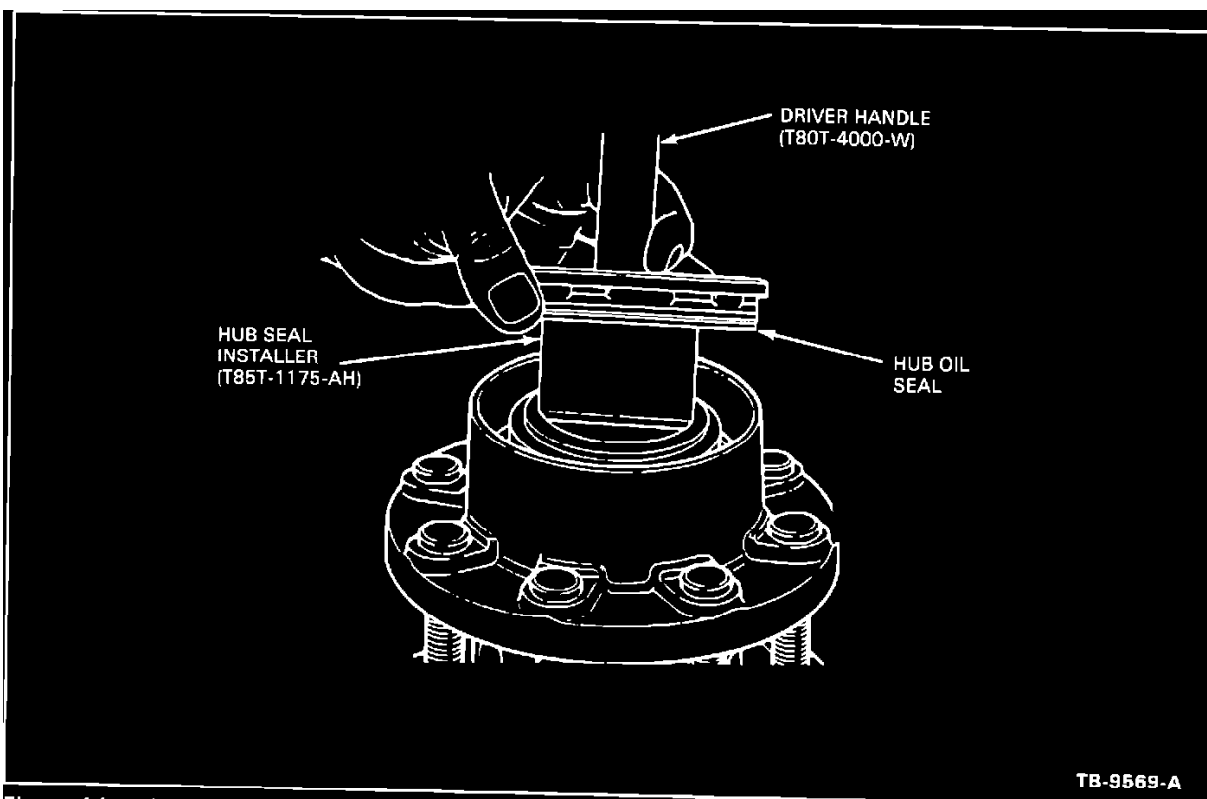

FIGURE 14
3. Insert tool with seal squarely into hub, Figure 14.